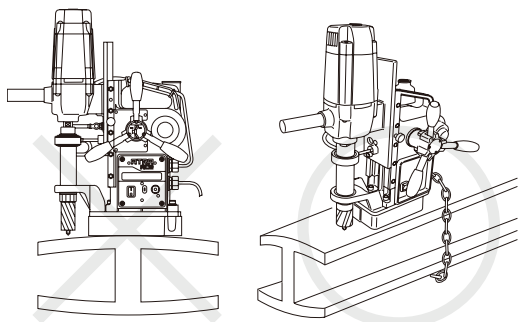

Fig. 6
- When using on H-section steel, as shown in the figure below, set the Magnet in a direction parallel to the longitudinal direction of the material. This will ensure that the Magnet is in the best position for magnetic attraction.(Fig.6)